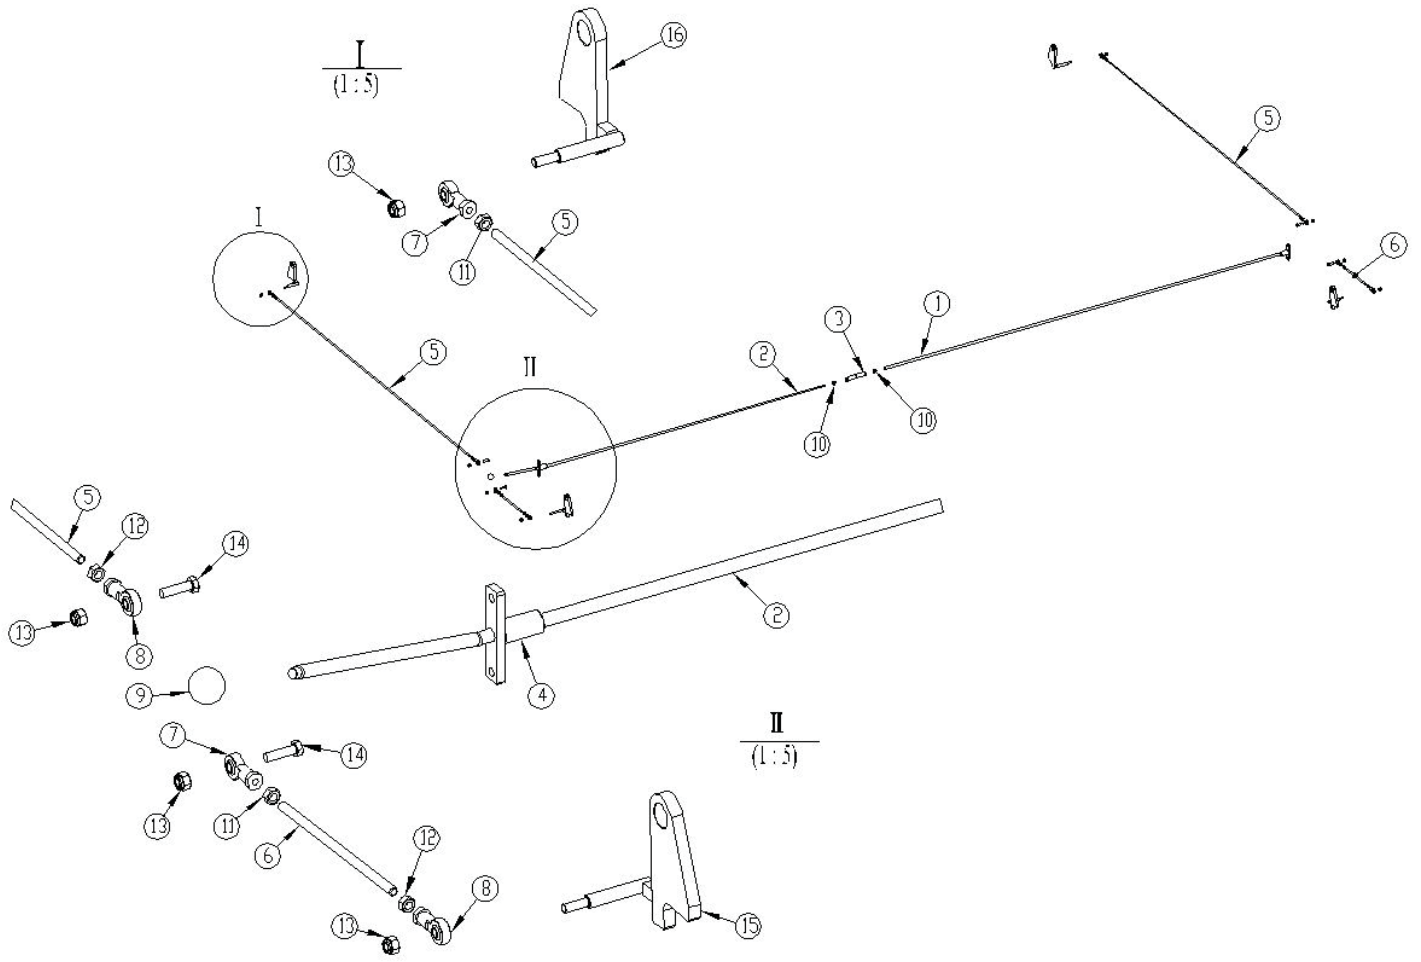

Figure 18 – Lock System Assembly
7.10 Lock System Assembly (Ref. Fig. 18)
- Locate the parts in the package and preassembled in the lift referring to the figure 18 and the sheet below;
- Assemble the lock system referring to the figure 18 and tighten the respective screws and nuts;